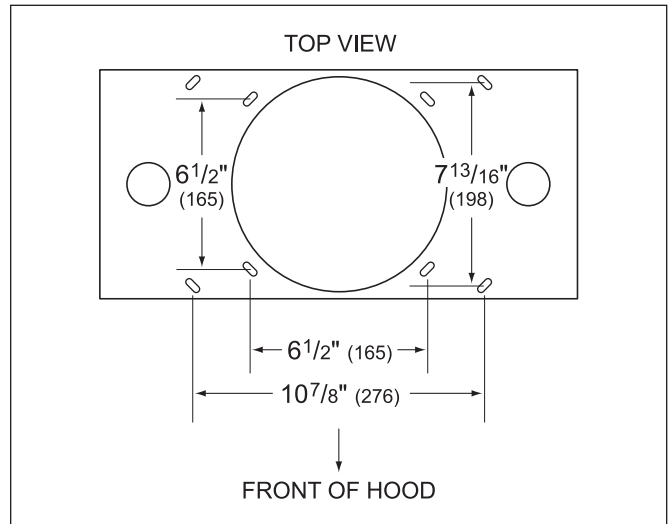

Figure 2-16 Telescopic Flue Mounting
1. At the island hood installation location, install two-by-four or 3/4"(19) plywood cross framing between ceiling joists. Refer to the island hood mounting pattern dimensions. (See Figure 2-16)